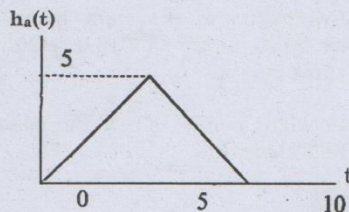

Fig. 1
8. The impulse response of an analog filter is given in figure 1. Let  $h(n) = h_a(nT)$  where  $T=1$ . Determine the system function.